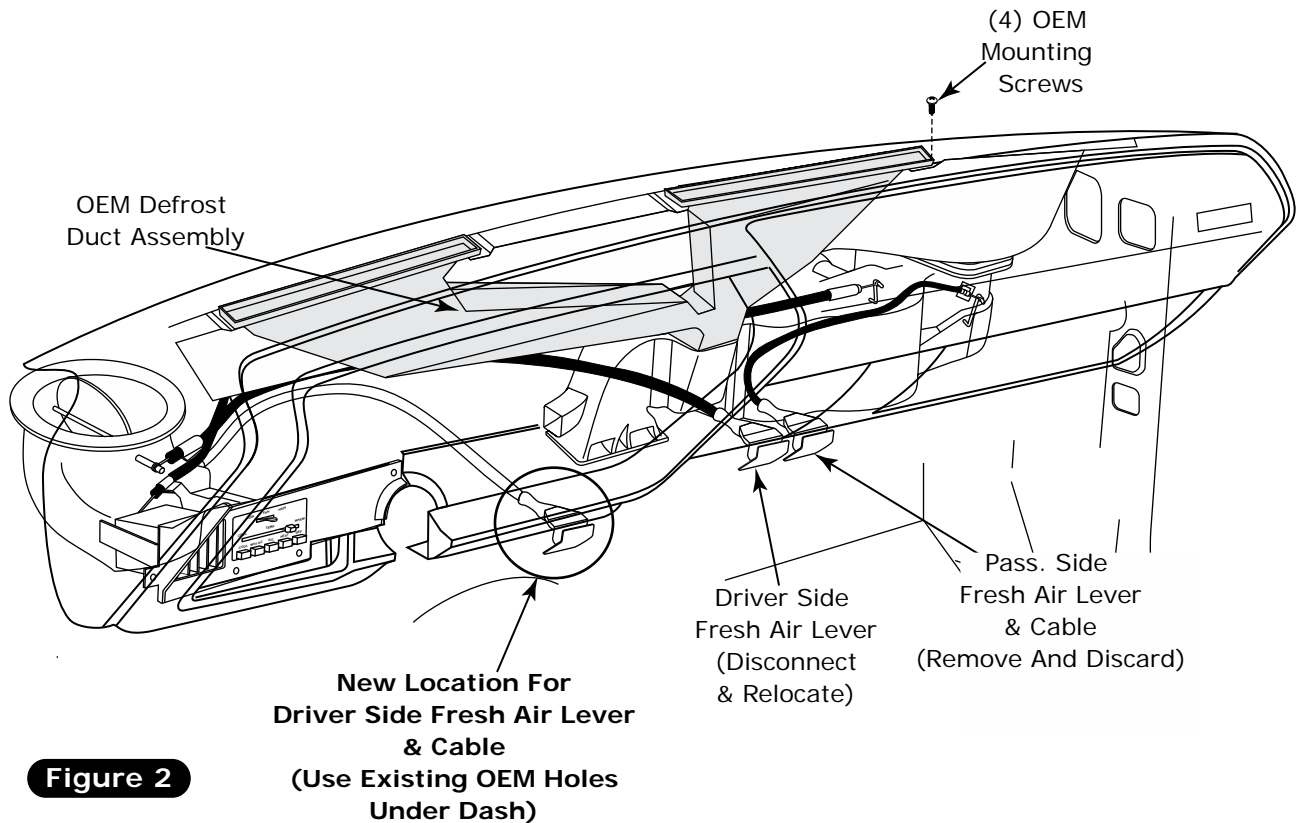

Figure 2
3. Remove OEM defrost duct assembly (See Figure 2, below).